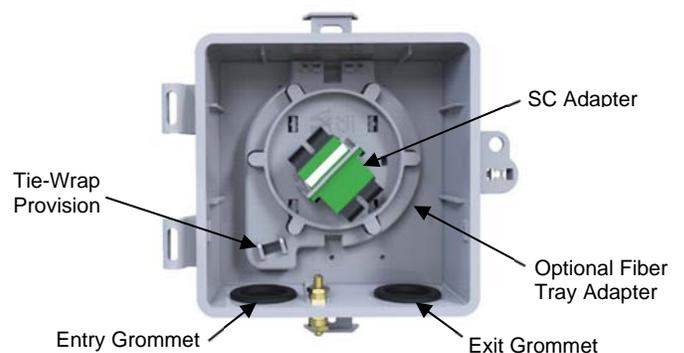

Figure 2
1. This unit allows for additional slack management and connector configurations utilizing the optional FP Series Fiber Tray Adapter. (See Figure 2).